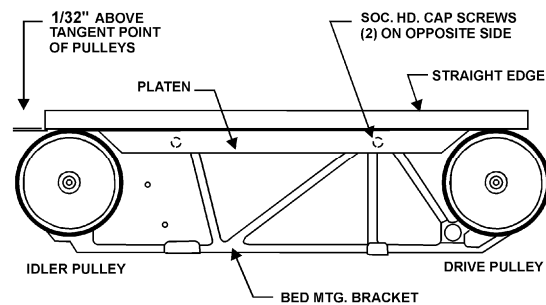

Figure 15
Refer to Figure 15:
2. Using a 6mm hex wrench, loosen the two socket head cap screws inside the belt arm and shift the platen as needed. The platen should be $1/32''$ to $1/16''$ above the tangent points of the pulleys and in contact with the belt at both ends. A straight edge can be used with the abrasive belt to align the platen, as shown in Figure 15.